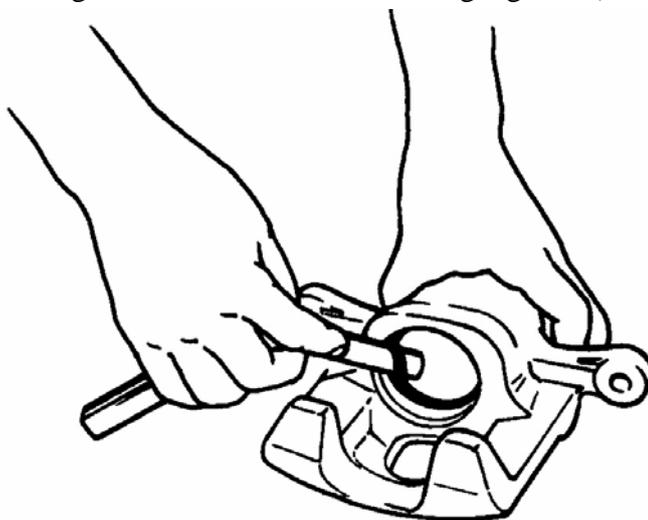

FIG.16-18
- (5) Remove piston seal using a thin blade like a thickness gauge, etc(FIG.16-18)